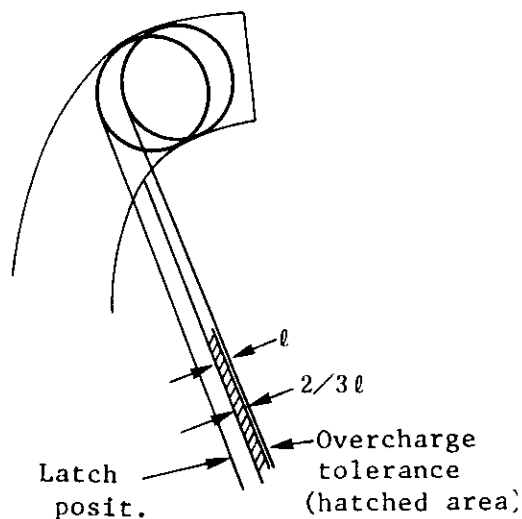
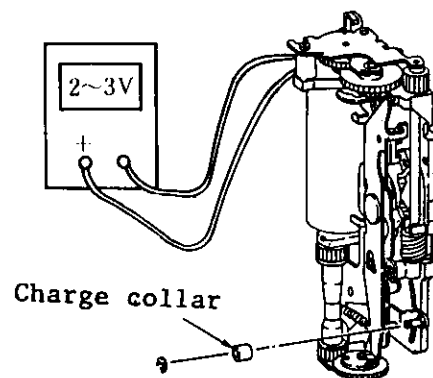

Fig. 40: Overcharge Adjustment
Fig. 41: Motor Connections
2. Apply 2 to 3 volts to the motor as shown in figure 41. Watch the operation of the pin. The overcharge should fall within the hatched area in figure 40. (This can also be done with the independent mirror box (pg. 3-9).